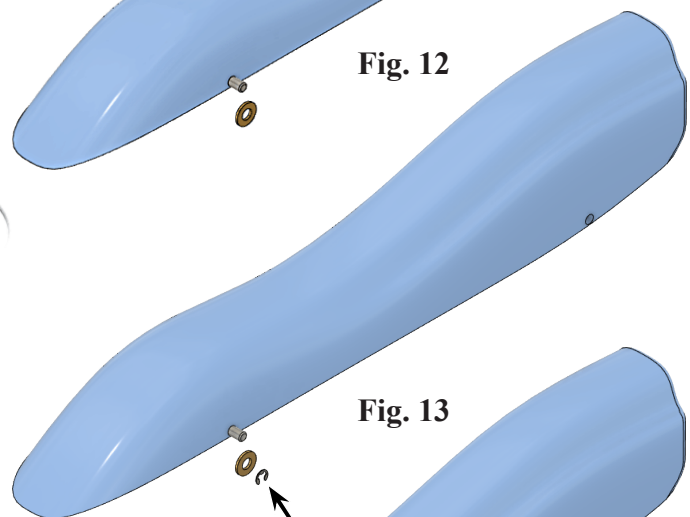

Fig. 13
Step 7. Drag E Clip **Square XY Manipulator**  to along side Washer, **right click** and click **OK** , Fig. 13.